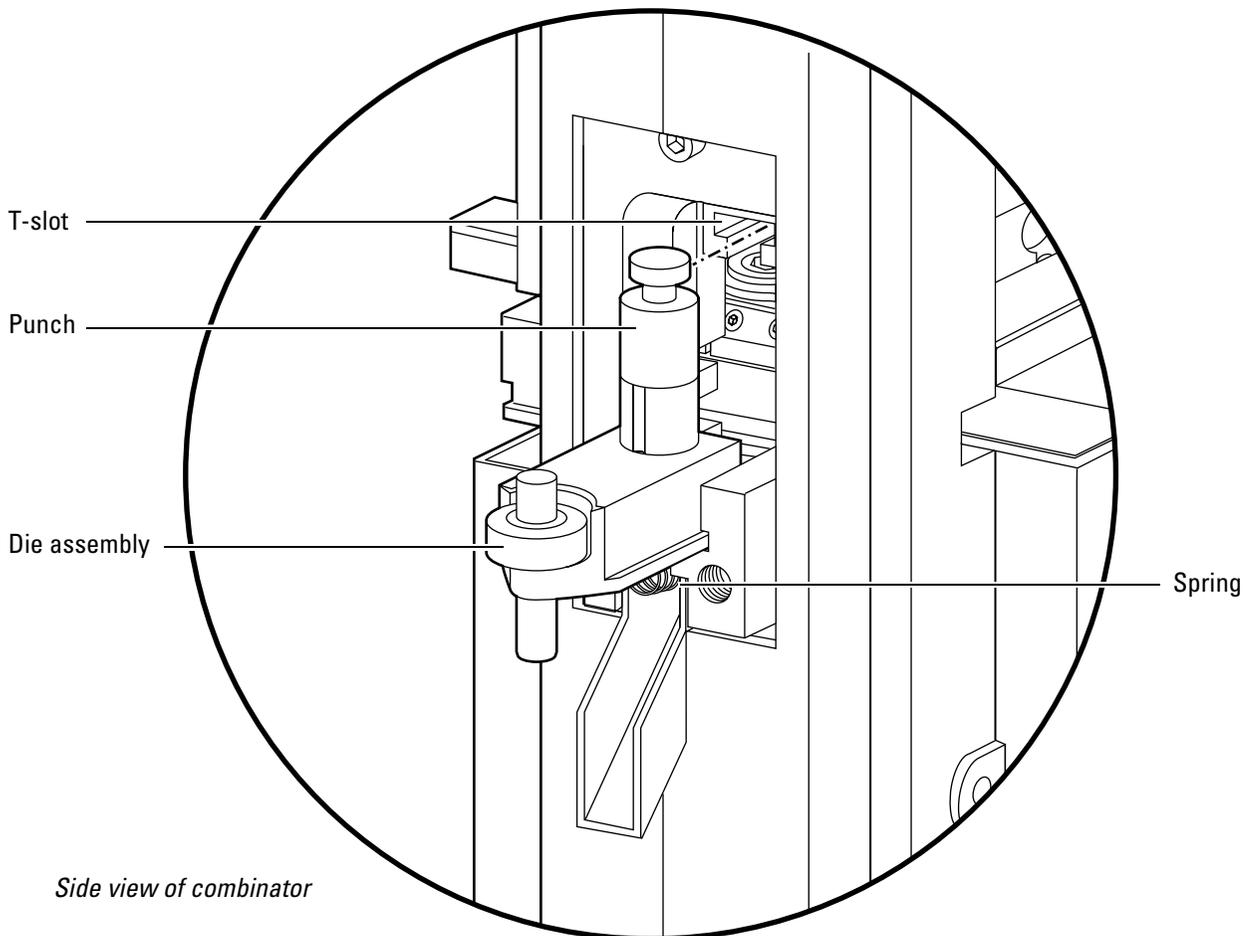

Figure 3.8 Inserting the punch into the T-slot
2. Assemble the punch so that it sits in the die as shown in Figure 3.8.
5. Place the top of the punch into the T-slot of the punch guide rail. See Figure 3.8.